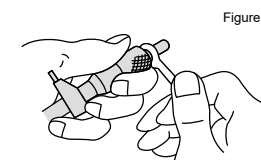

Figure 2
- If the reference point difference is around ±0.01 mm or higher (Figure 2)